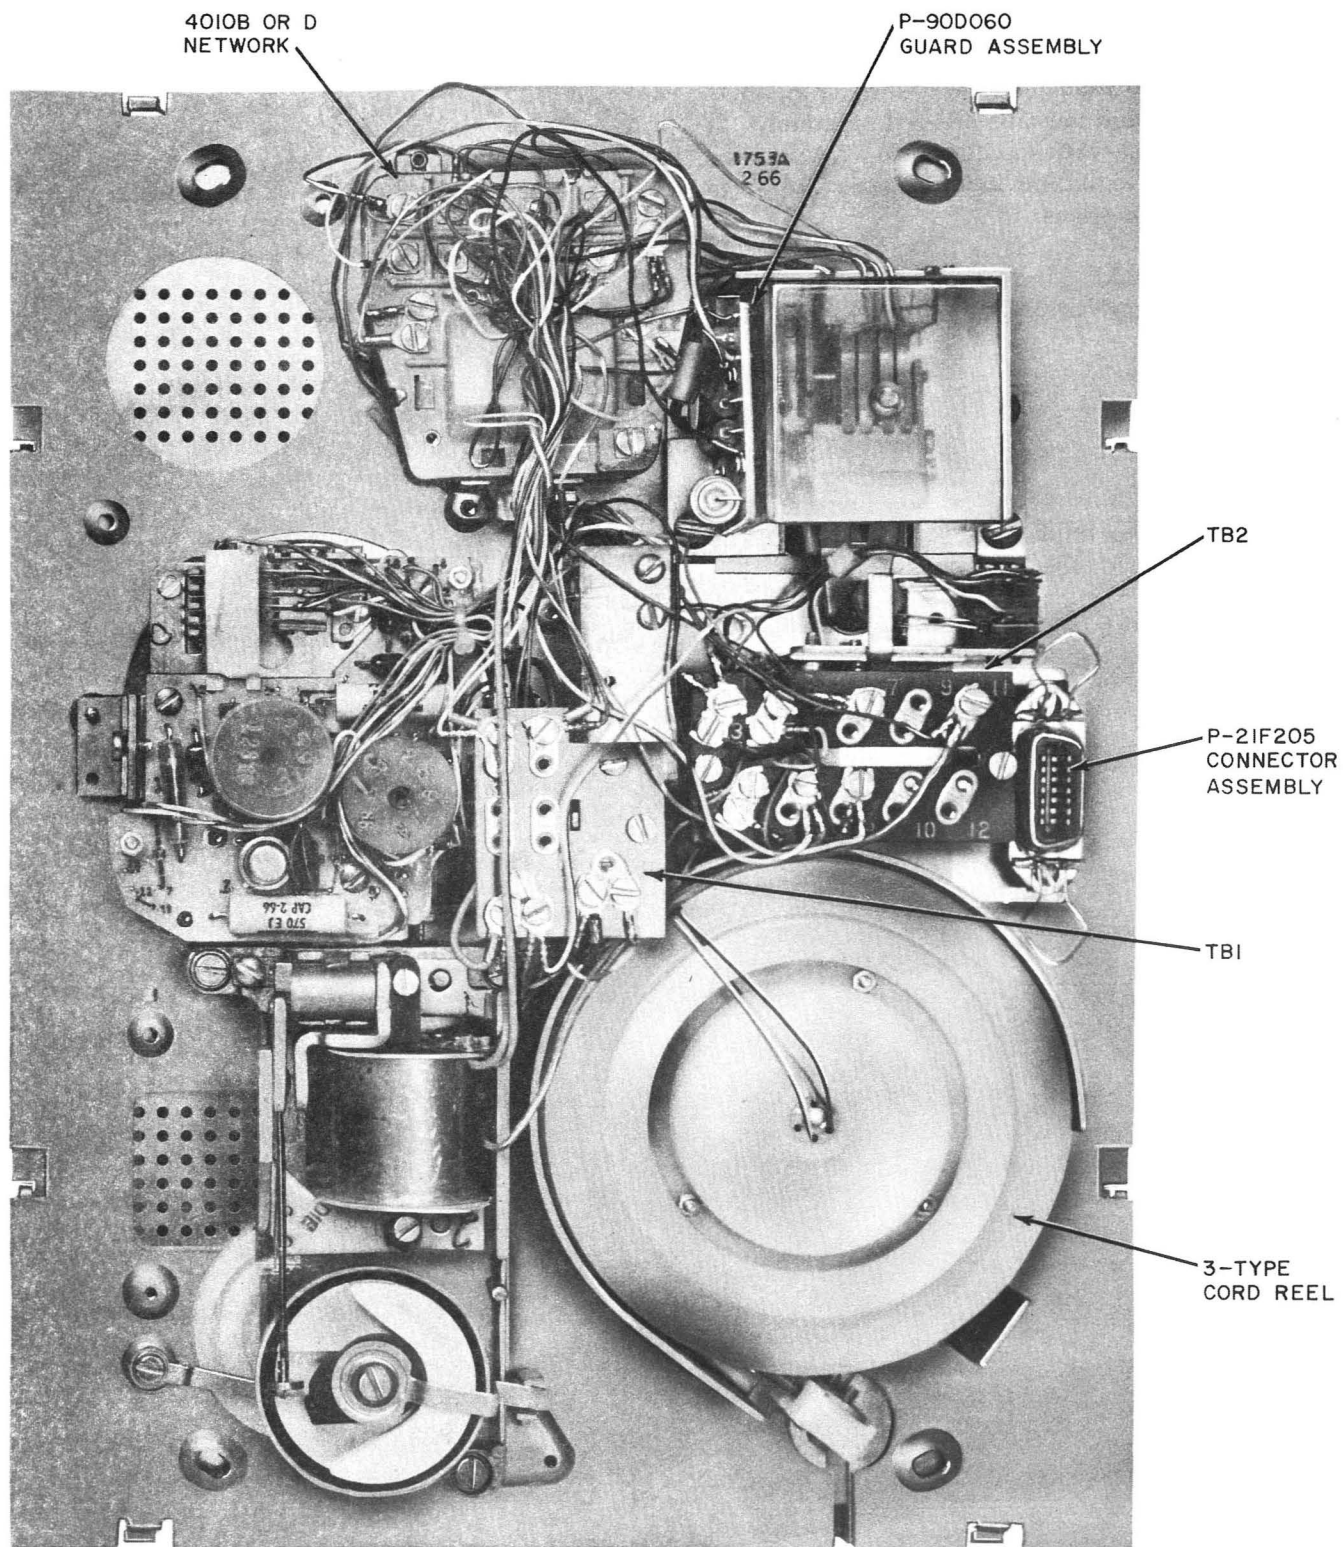

Fig. 2—1753-Type Telephone Set, Rear View
3.04 The P-90D060 polarity guard (Fig. 2) is optional and must be ordered separately. It is intended for use when specified by local instructions for end-to-end signaling installations. Refer to Table B for connections.